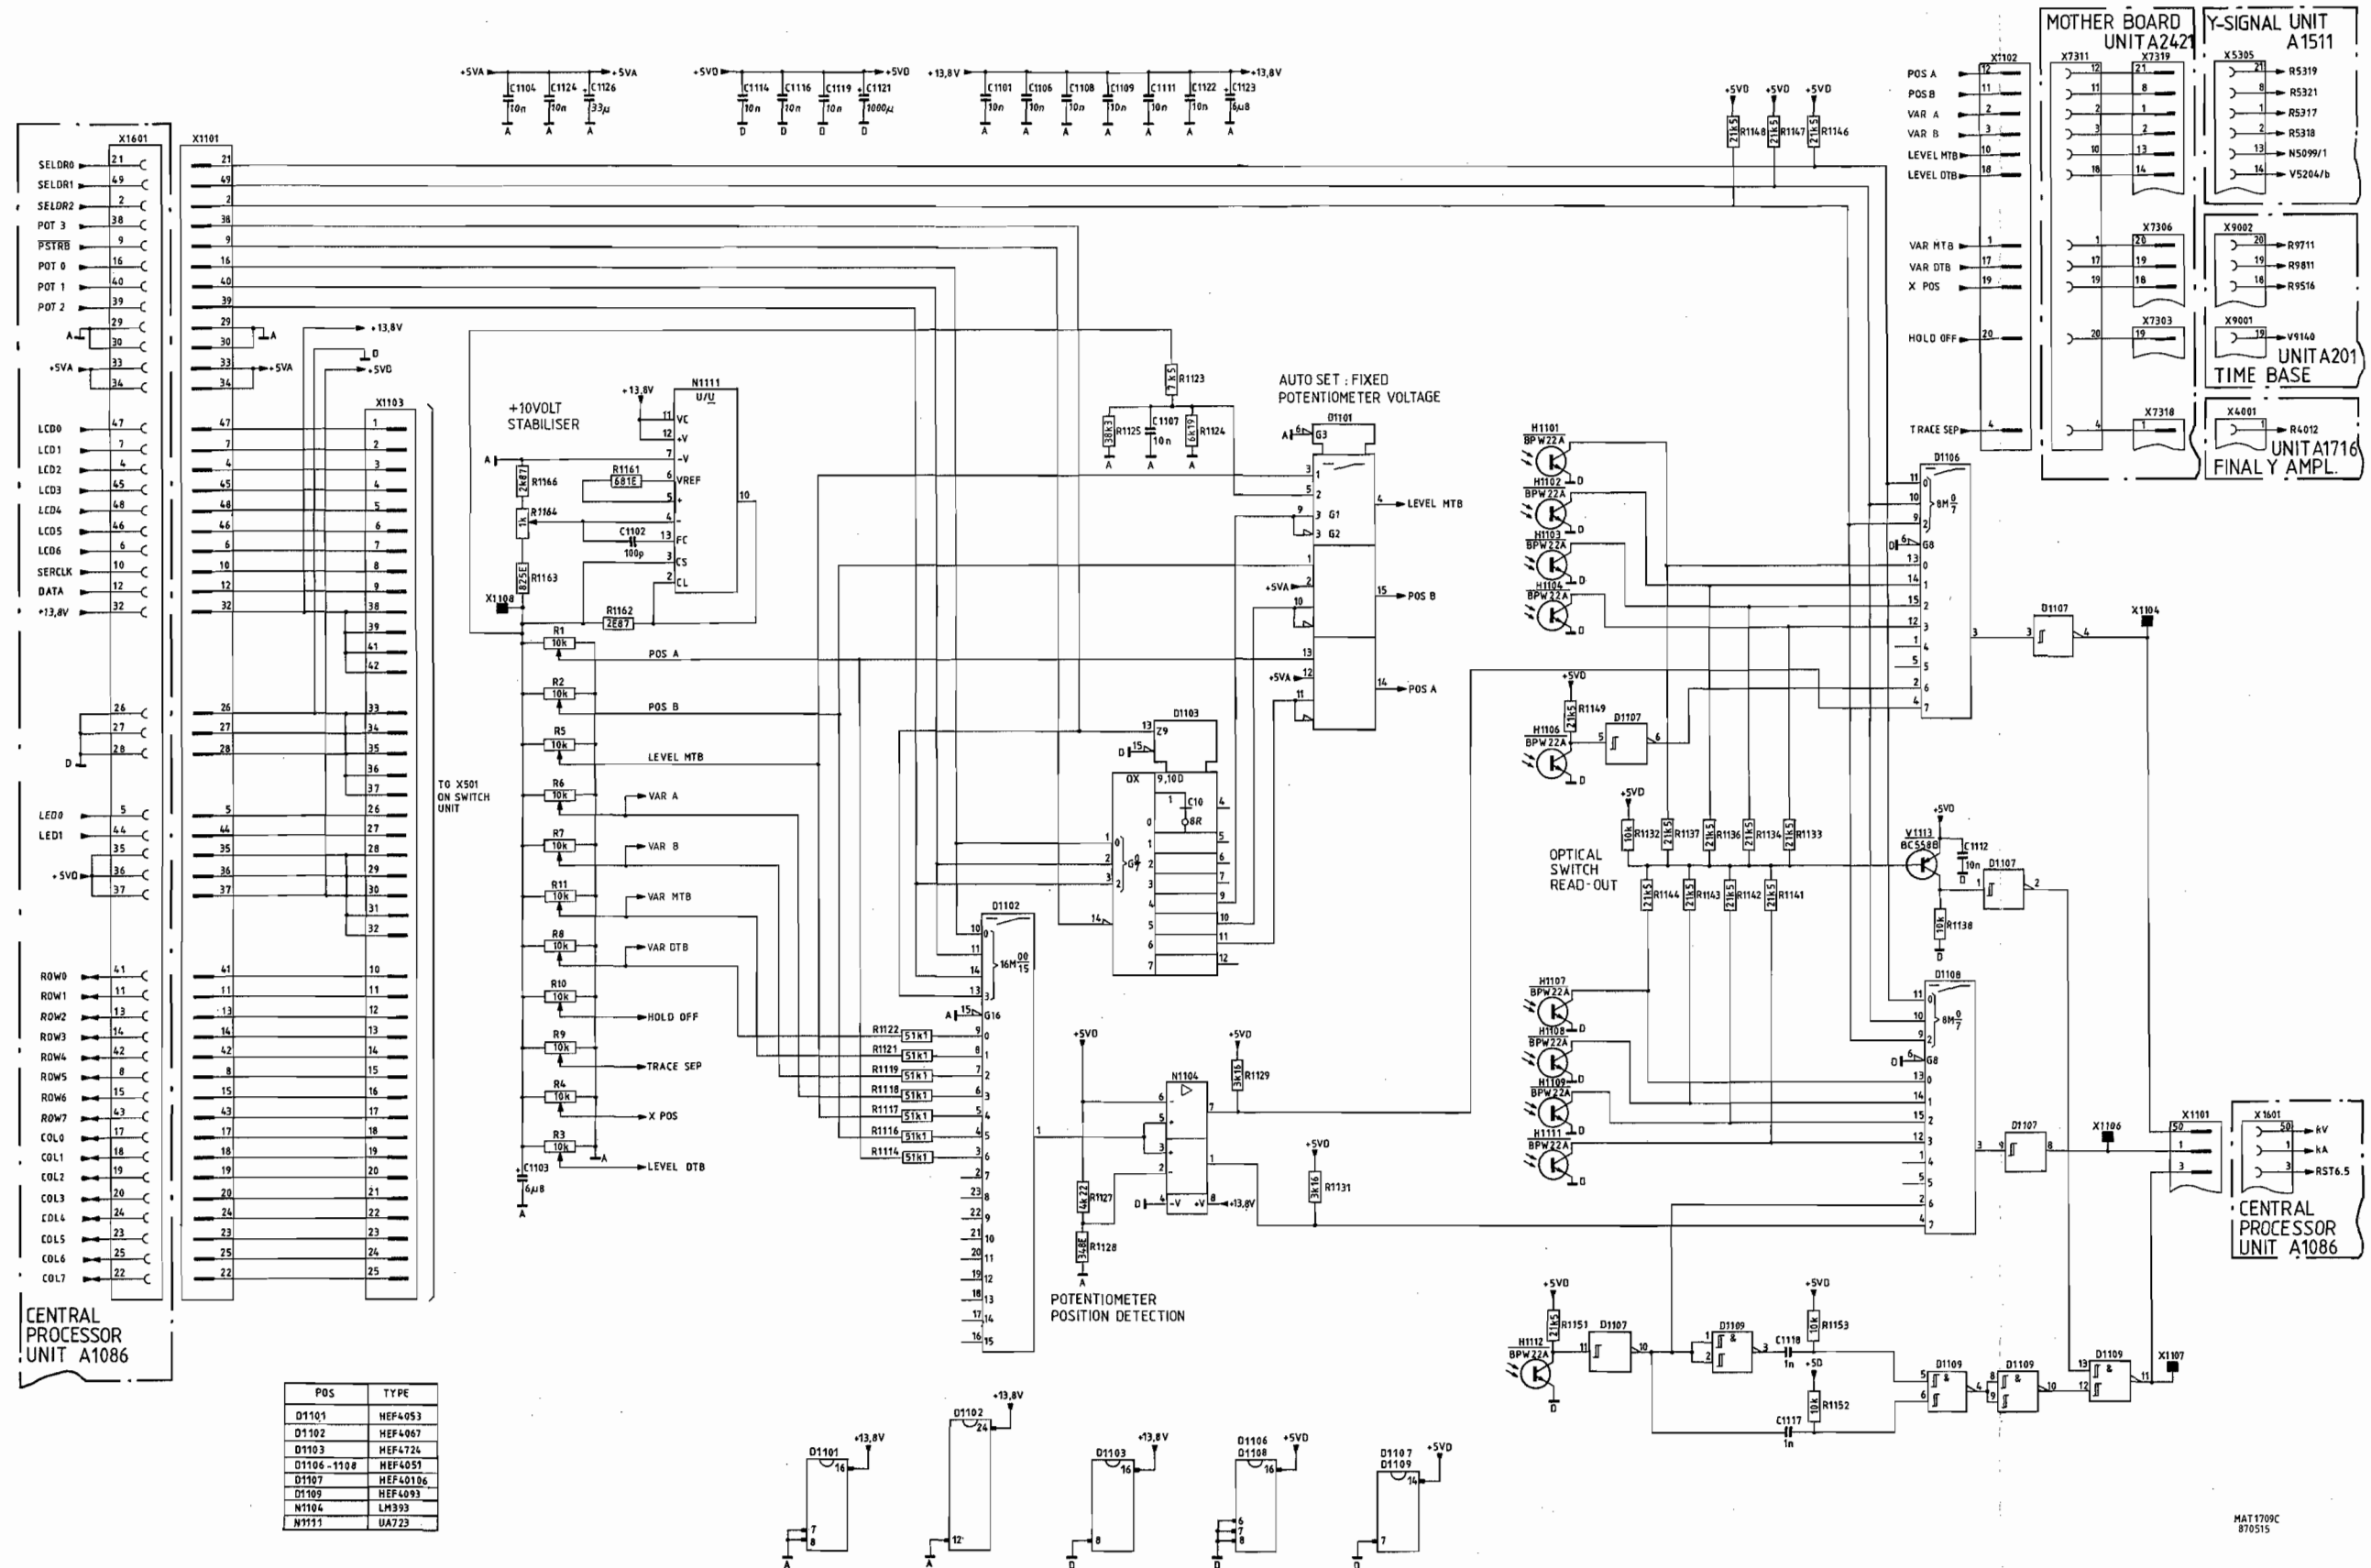

Fig.6.3. Intermediate unit, circuit diagram.
6. CIRCUIT DESCRIPTION OF THE INTERMEDIATE UNIT (see fig.6.3)